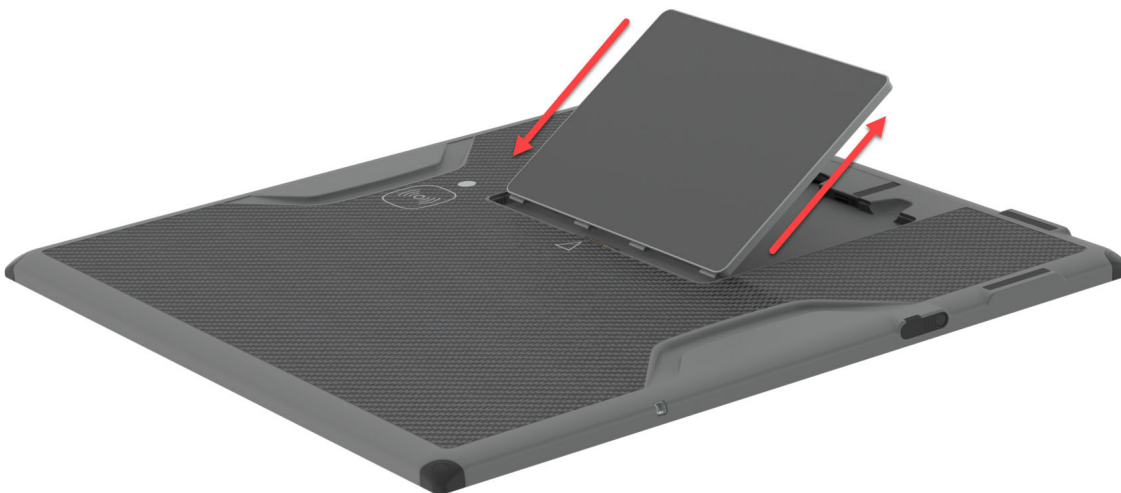

Figure 23 Reboot Sequence
- 1 Insert and remove the Battery **4 times within an 8 second window**, see Figure 23.